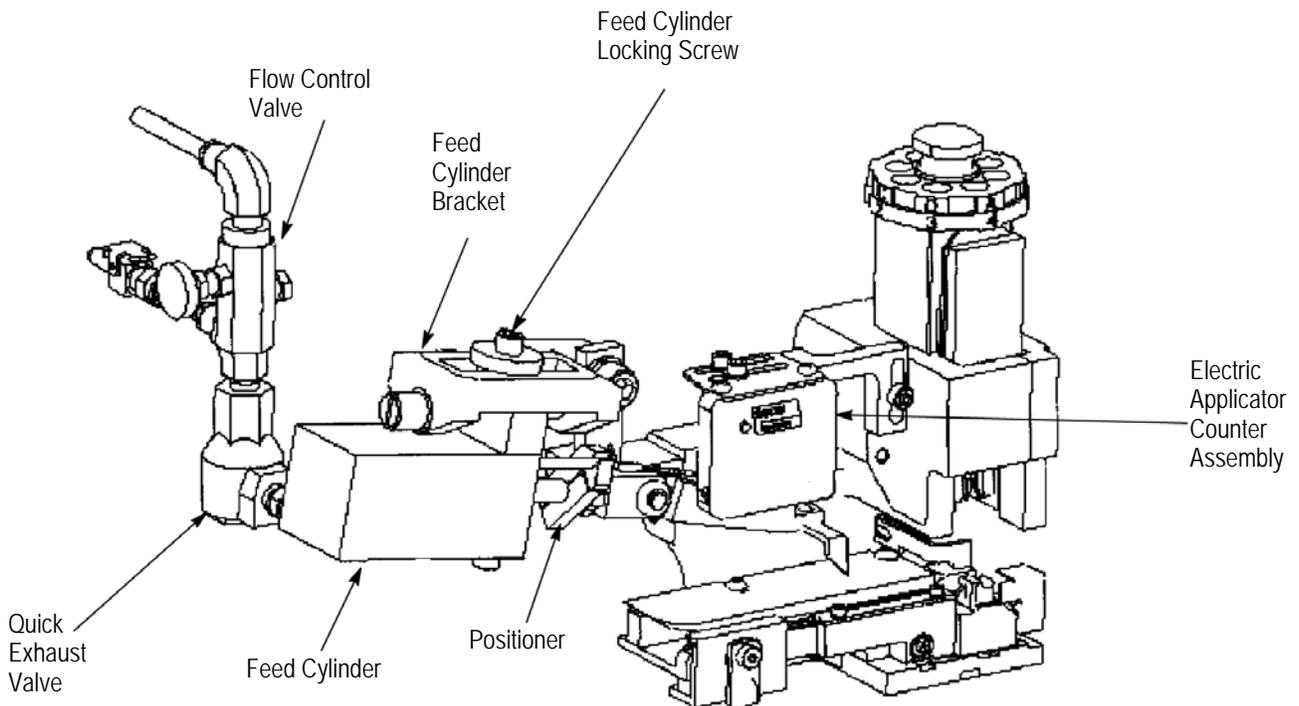
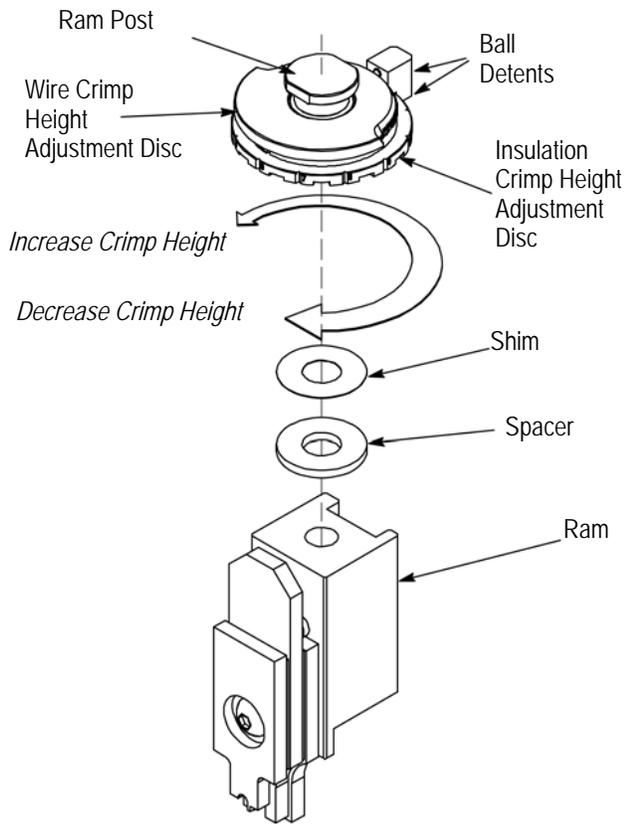

Figure 4
Figure 5
b. Applicator with air-feed systems (Figure 4) -
- 1) Loosen slightly the feed cylinder locking screw on top of feed cylinder bracket (see Figure 4).
Fine Adjust Assembly 879103-[] is factory installed and should require no further adjustment. If the assembly must be removed from the ram, be sure to loosen ram post locking set screw (Figure 4). The ram post can then be removed. Upon re-assembly, be sure that the two ball detents on the fine adjust assembly are aligned with the centerline of the insulation crimper and oriented relative to the front of the tooling (as shown in Figure 5). Ensure that the correct spacer (as per the appropriate applicator log) is re-assembled. Be sure that the ram post and ram post locking set screw are tight before re-installing the applicator into the appropriate terminating unit.